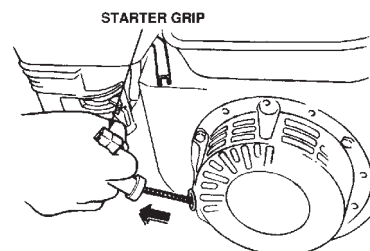

Figure 13. Starter Grip
6. Grasp the **starter grip** (Figure 13) and slowly pull it out. The resistance becomes the hardest at a certain position, corresponding to the compression point. Pull the starter grip briskly and smoothly for starting.